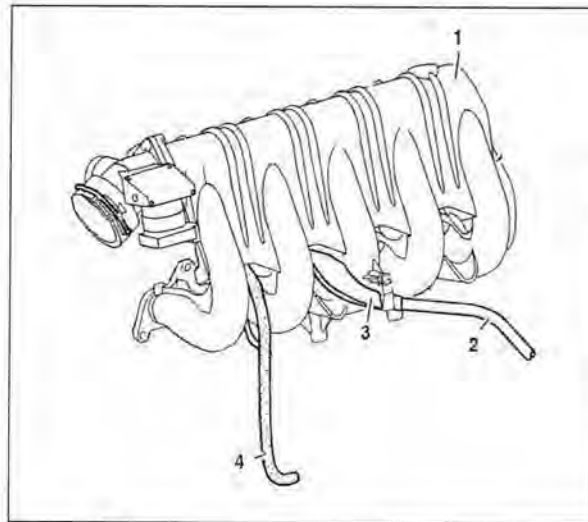

Figure 19
- Carefully pull/route the entire engine harness (2, Figure 19) with harness duct/cover (3) and fuel hose (4) through the intake manifold runners from the right side of the engine.
- Be careful not to break cable duct/cover (3, Figure 19) when routing engine harness (2, Figure 19) and cable duct/cover (3, Figure 19) through intake manifold runners.
- Completely remove engine harness (2) from vehicle.